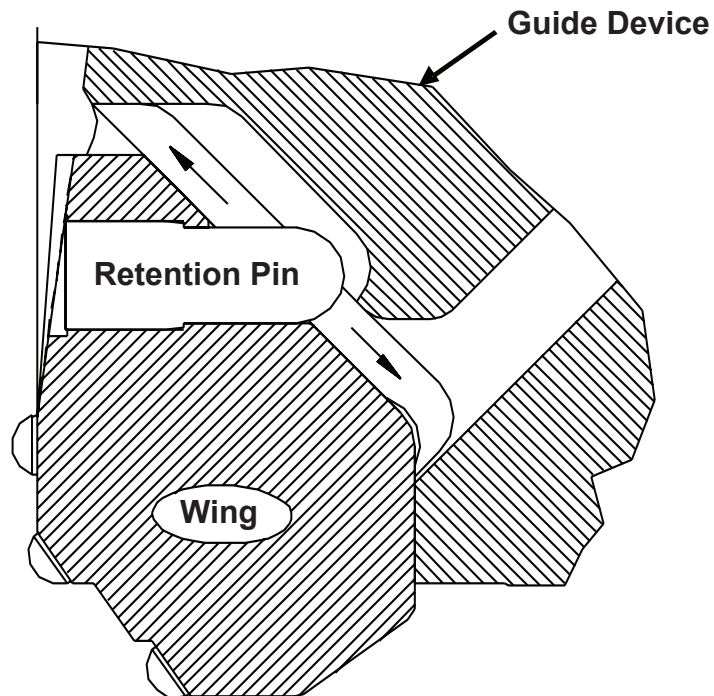
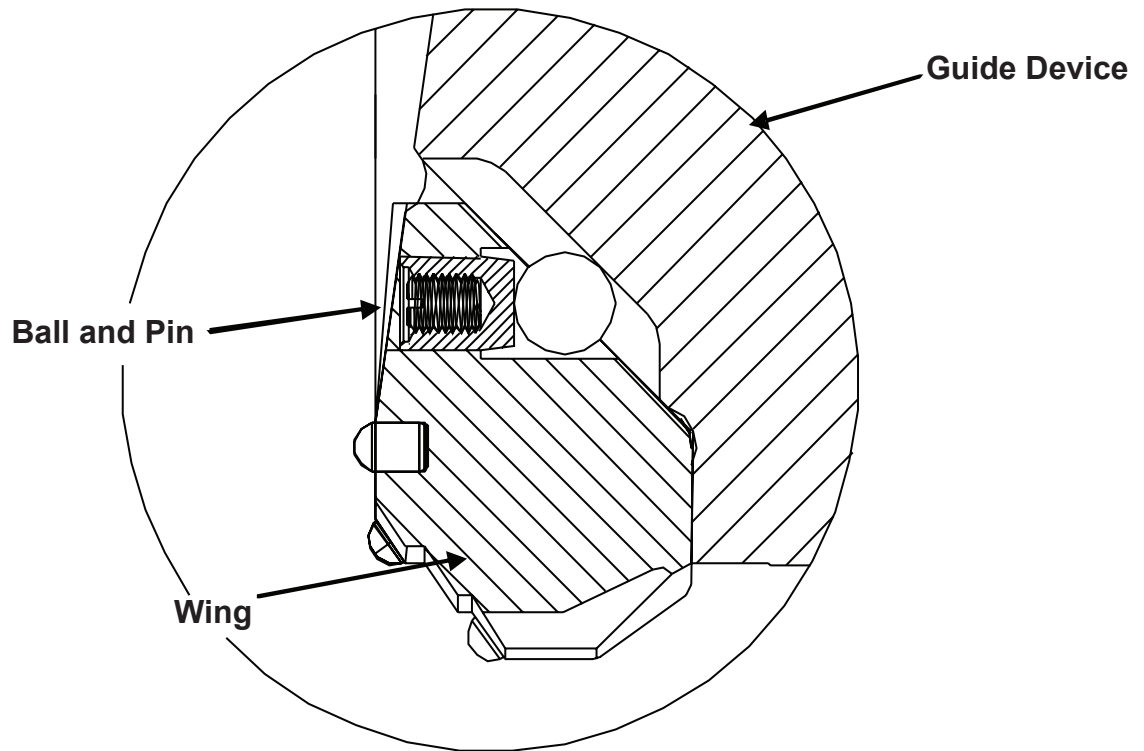

Figure 6. Retention Pin Types
Figure 7. Ball and Pin Retention
1. Wing removal for this style Bit is the same as above (for Retention Pin in Wings). **(Figure 6)** The only difference is that instead of a one piece solid Pin, a shorter Pin and contiguous Ball is used. The Pin is fitted to the Wing and the Ball is located half in a counterbore beneath the Pin, and half in a groove in the Guide Device. **(Figure 7)**
With the Wings in place, insert the domed end of the solid Retention Pins into the hole in the Wings. Once the Pins have been started straight with the hole, hammer the Pins into place until they seat against the face in the counterbore. Large Retention Pins in Large Super Jaws, have considerable press fit. These Pins require significant force to seat them properly. The Pins should be lubricated with an appropriate grease or oil to ease the assembly. **(Figure 6)**
Push the Wing upwards toward the center of the Guide Device, until the Balls can be placed into the counterbores in the bottom of the Wings. With the Balls in place, allow the Wings to fall back to their cutting position, and assemble the Pins from the top of the Wing as described in the step above. **(Figure 7)**